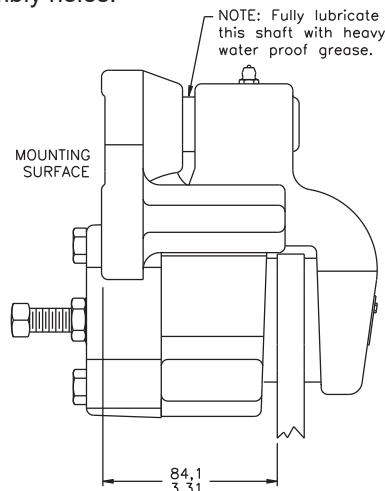

FIGURE 1
- Figures 1 and 2 illustrate the two methods of mounting this series of brakes. See GREASE NOTE, Figure 5 on page 2. The mounting surface to disc face dimension should be closely held as this provides for the required caliper movement. Use shims as needed to obtain the proper distance.
Dimensions shown in Figures 1 and 2 are typical for all models. Mounting surface to disc face dimension is typical of rectangular and triangular brackets. Mounting bolts not included.